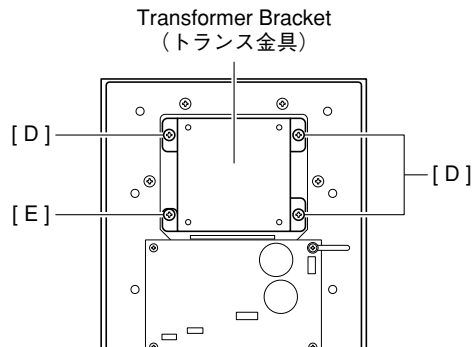

Fig. 5 (図 5)
- 5-3 Remove the three (3) screws marked [D] and screw marked [E]. The transformer bracket can then be removed. (Fig. 5)
- 5-3 [D]のネジ3本と[E]のネジを外し、トランス金具を外します。(図5)